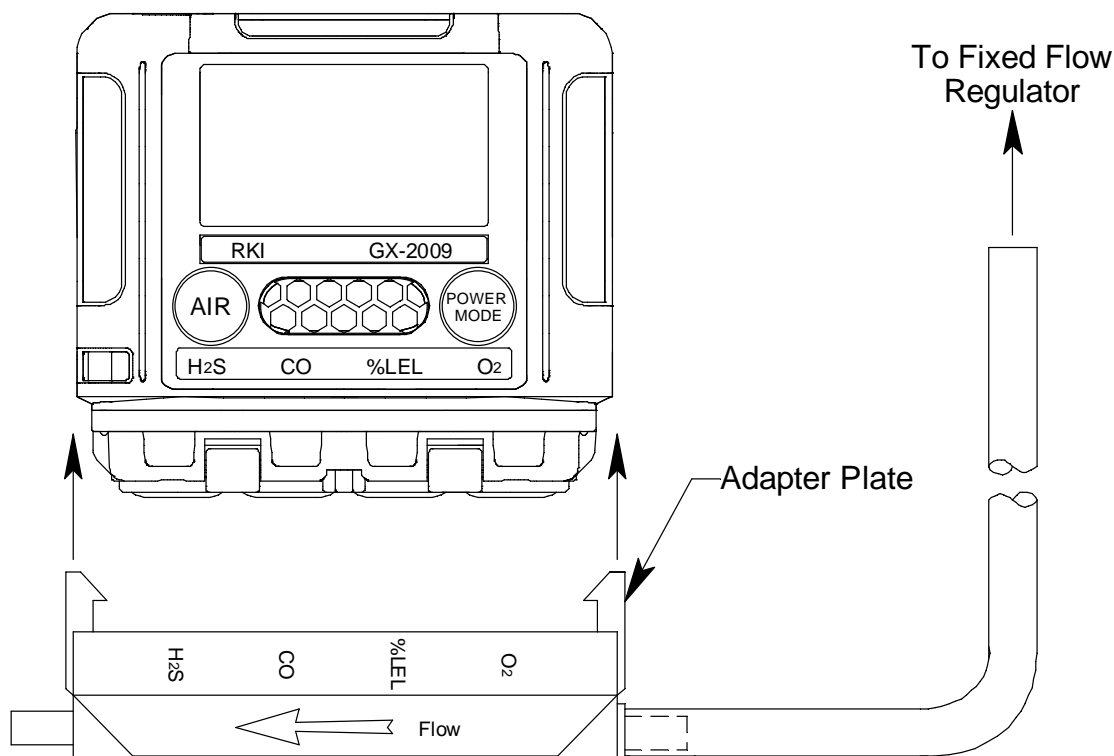

Figure 14: Installing the Adapter Plate
5. Push the adapter plate onto the GX-2009's sensor face. Make sure the adapter plate is oriented as shown in Figure 14 below with the sensor names on the adapter plate matching up with the sensor names on the instrument.